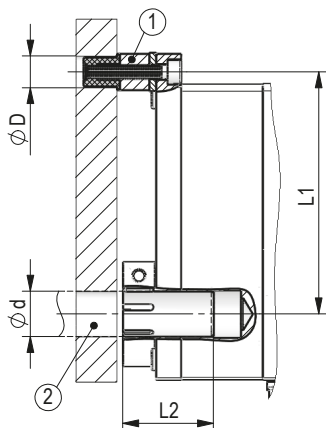
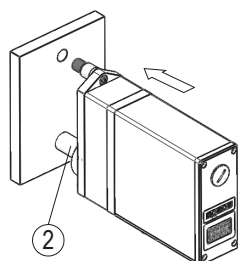
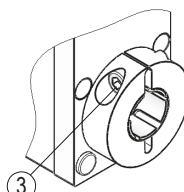
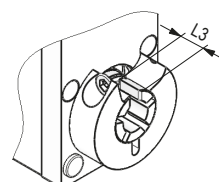

Fig. 1: Mounting dimensions
Fig. 2: Mounting
Fig. 3: Fastening torque for screws
Fig. 4: Shaft for feather key
- ▶ Ensure a low shaft and angle offset between shaft and accommodation bore by applying appropriate manufacturing methods (see Fig. 1 + Tab. 1).
**Preparing mounting (Fig. 1, Fig. 2, Fig. 3, Fig. 4):**
1. Make bore ( $\varnothing D$ ) with distance (L1) to the driving shaft ②.
2. Observe length (L2, L3) and diameter ( $\varnothing d$ ) of customer shaft ②.
3. Untighten the M6 screw in the torque support ① and M6 screw in the clamping ring ③.
**Mounting (Fig. 1, Fig. 2, Fig. 3, Fig. 4):**
1. Slide the actuator on the customer shaft ② until the torque support has reached the stopper ①. You may slightly adjust the torque support to the installation conditions via a long hole).
2. Tighten the clamp ring screw ③ by applying 8 Nm.
3. Tighten the screw for the torque support ① by applying 2 Nm.